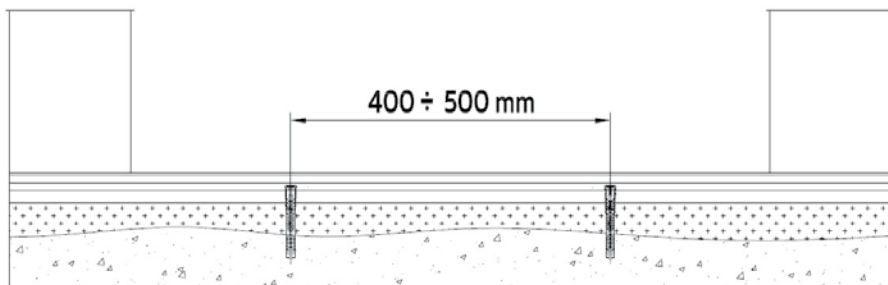

Fig. 9. Levelled Installation of Aluminum Door Threshold
12. When installing an aluminum threshold, the floor beneath it must be leveled (see Fig. 9, p. 11).